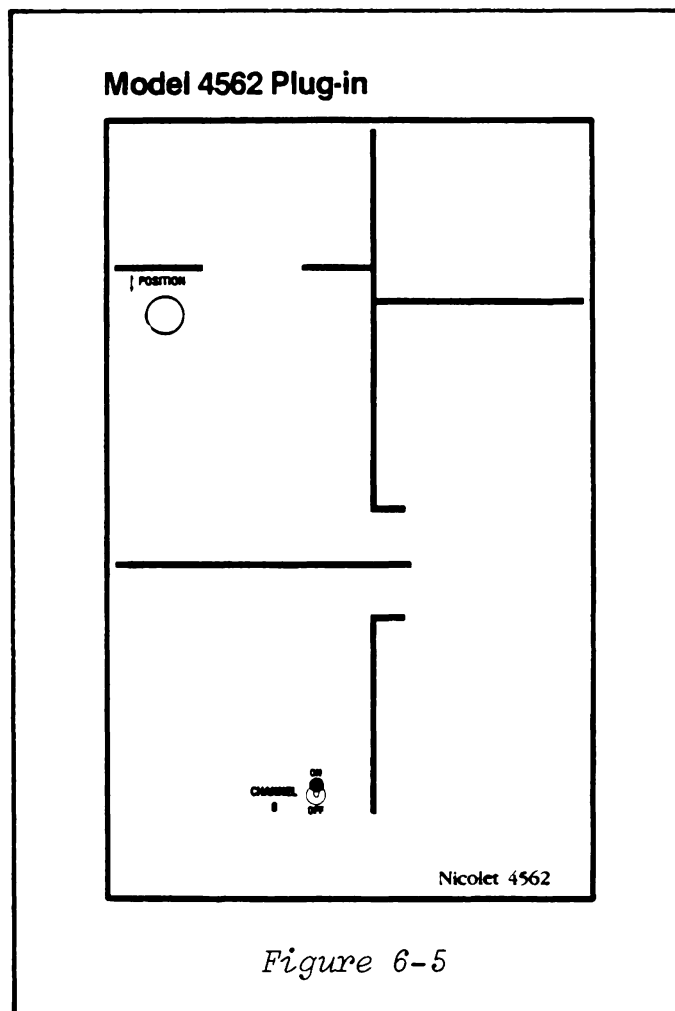

Figure 6-5
- #5. Adjust the Channel A POSITION control (Figure 6-5) until the crosshair, trace, and horizontal cursor are located approximately at the center of the screen.
- #6. Turn on Channel B, (Figure 6-5).